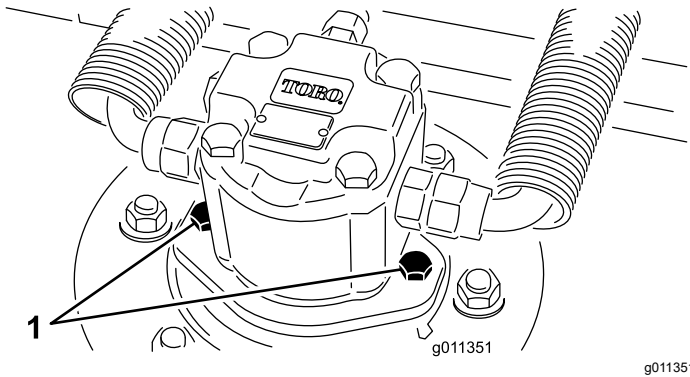

Figure 101
2. Disconnect and remove the hydraulic motor from the cutting unit (Figure 101). Cover the top of the spindle to prevent contamination.
4. Install the hydraulic motor to the deck (Figure 101). Make sure that the O-ring is in position and not damaged.